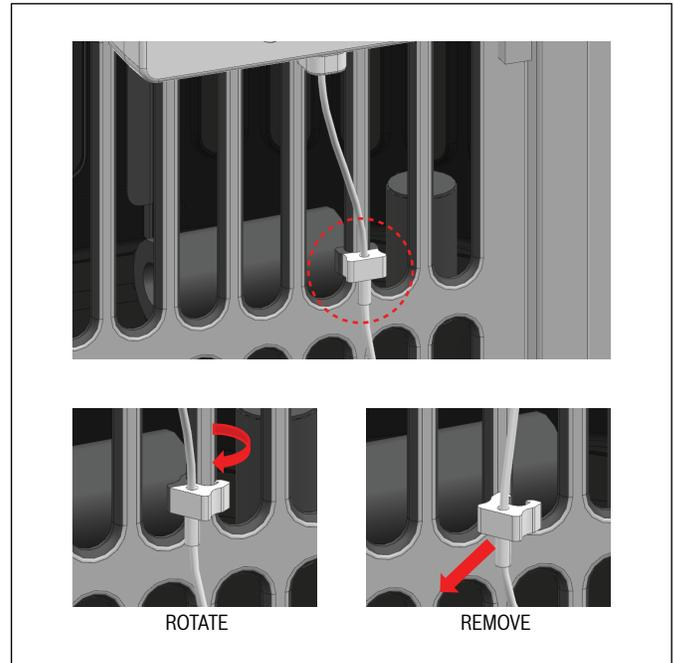

Figure 4 Antenna Cable Clip Removal
5. Remove the antenna cable clips from the vertical louvers by rotating them about the louver (Refer to Figure 4).